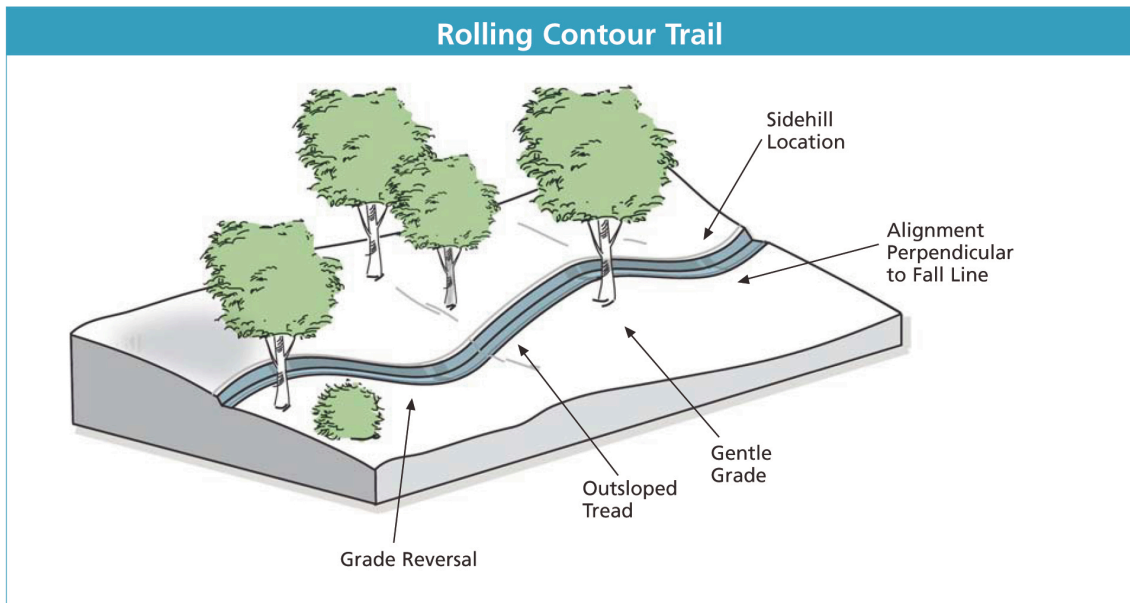

Figure 1: Rolling Contour Trail
3.2 Trail Construction (figures 1 - 4)